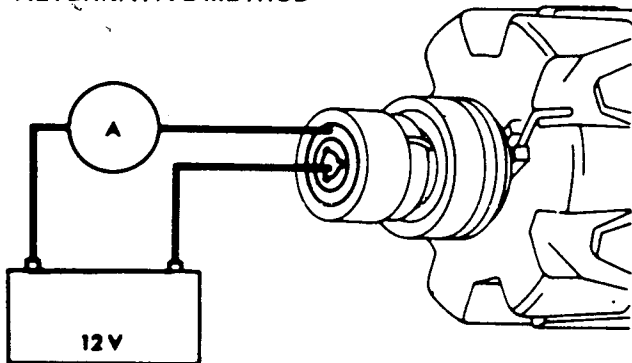

Fig O6.3
- (3) Refer to Fig O6.3. Connect an ammeter and battery between the slip-rings.
- (4) Check that the ammeter reads approximately 3 amps.